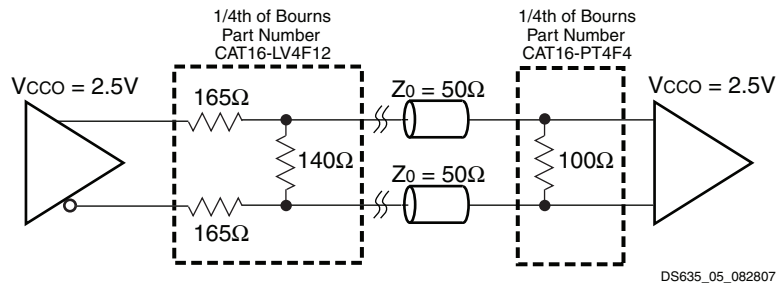

Figure 5: External Termination Resistors for BLVDS Transmitter and BLVDS Receiver
2. Output voltage measurements for all differential standards are made with a termination resistor (R_T) of 100 Ω across the N and P pins of the differential signal pair. The exception is for BLVDS, shown in Figure 5 below.